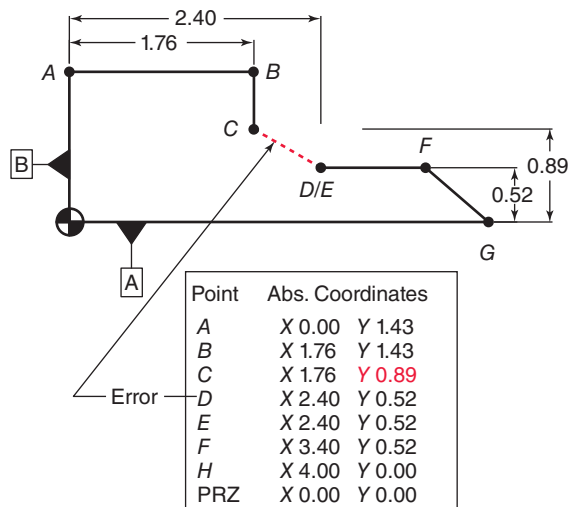

Figure 17-67 Answer to Problem 8. Error caused by wrong absolute coordinate.
8. The error causes an angular line from point *C* to *D*. Since point *D* is incorrectly impressed over point *E*, line *D-E* is missing. However, all else is correctly shaped beyond that error (Fig. 17-67).